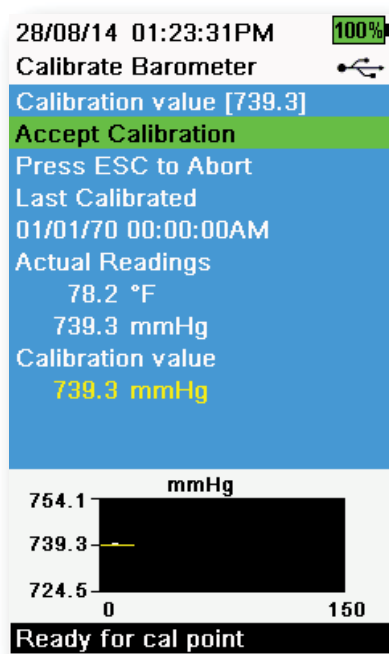

Figure 46 Calibrate Barometer
3. Select **Accept Calibration** (Figure 46). "Calibration successful!" will be displayed in the message area.